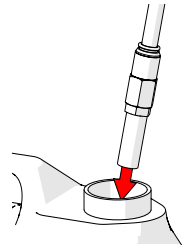

Fig. 2 - Inlet filter in couplant
2. Place inlet filter (Fig. 1-5) into a reservoir of non-toxic, non-flammable couplant (Fig. 2). Ensure opposite end of inlet hose is connected to motorized pump's inlet connection (Fig. 1-3).